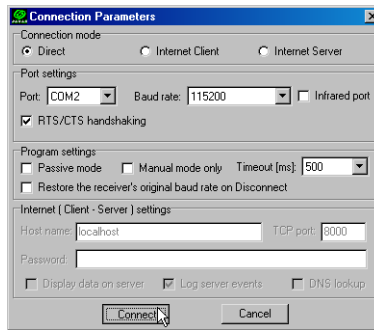

Figure 2-19. Connection Parameters – RTS/CTS Handshaking
2. On the Connection Parameters dialog box, enable RTS/CTS handshaking (Figure 2-19) and then click **Connect**.